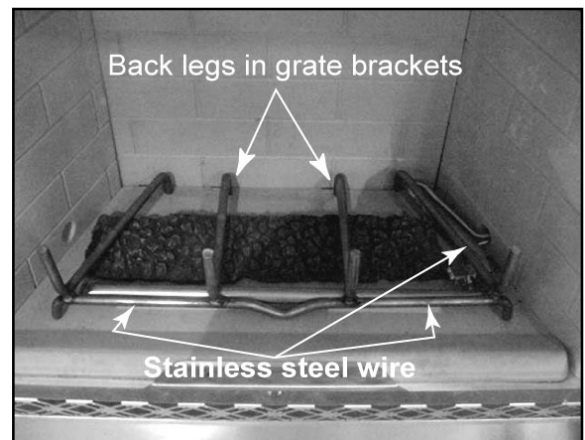

Figure 6 - Fiber Ash Bed
- d. Attach the burner to the grate with the enclosed stainless steel wire to hold the burner in position. Wrap the wire around the burner and the grate bar. See Figure 6.